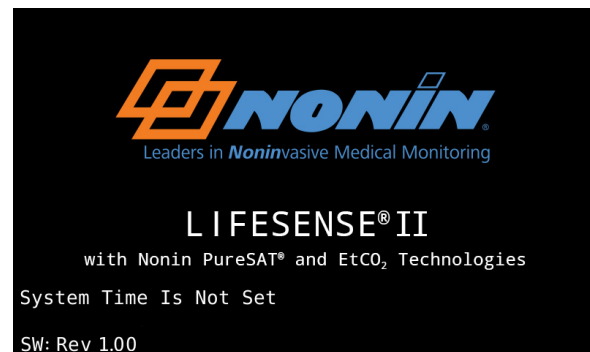

Figure 6. Start-up Screen
2. A second audible beep (speaker test) sounds when the Nonin logo start-up screen (figure 6) displays. The lower left corner of the screen shows the monitor’s software revision.